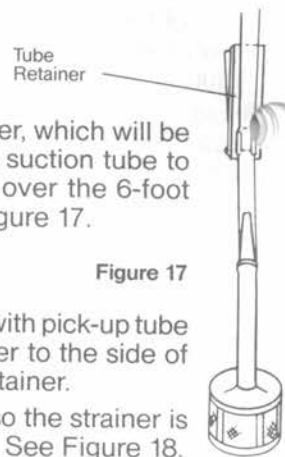

Figure 17
4. Snap the tube retainer, which will be used to connect the suction tube to the paint container, over the 6-foot suction tube. See Figure 17.